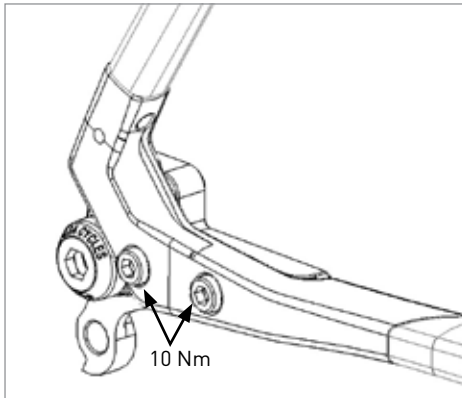

Figure 6
14. Using a 5 mm hex wrench, tighten all four M6 bolts to 10 Nm (Fig. 6).